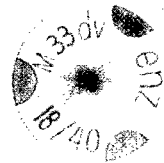

Figure 323—Percussion Primer M33
**EMPLOYMENT.** Percussion Primer used on the German 47-mm cartridge case. (See fig. 323.)